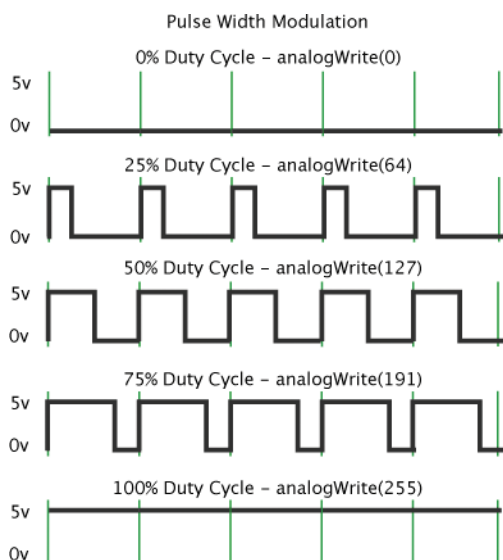

FIGURE 1.4: Pulse width modulation
With digital signals, a signal can either have a high state (1) or a low state (0). Alternating between a low and a high state at a fixed period of time can be used to generate a square wave, as shown in Figure 1.4. The ratio of the signal's on state to period of time is called the *duty cycle*. So a 30 percent duty cycle means the signal is on 30 percent of the time and off 70 percent of the time.